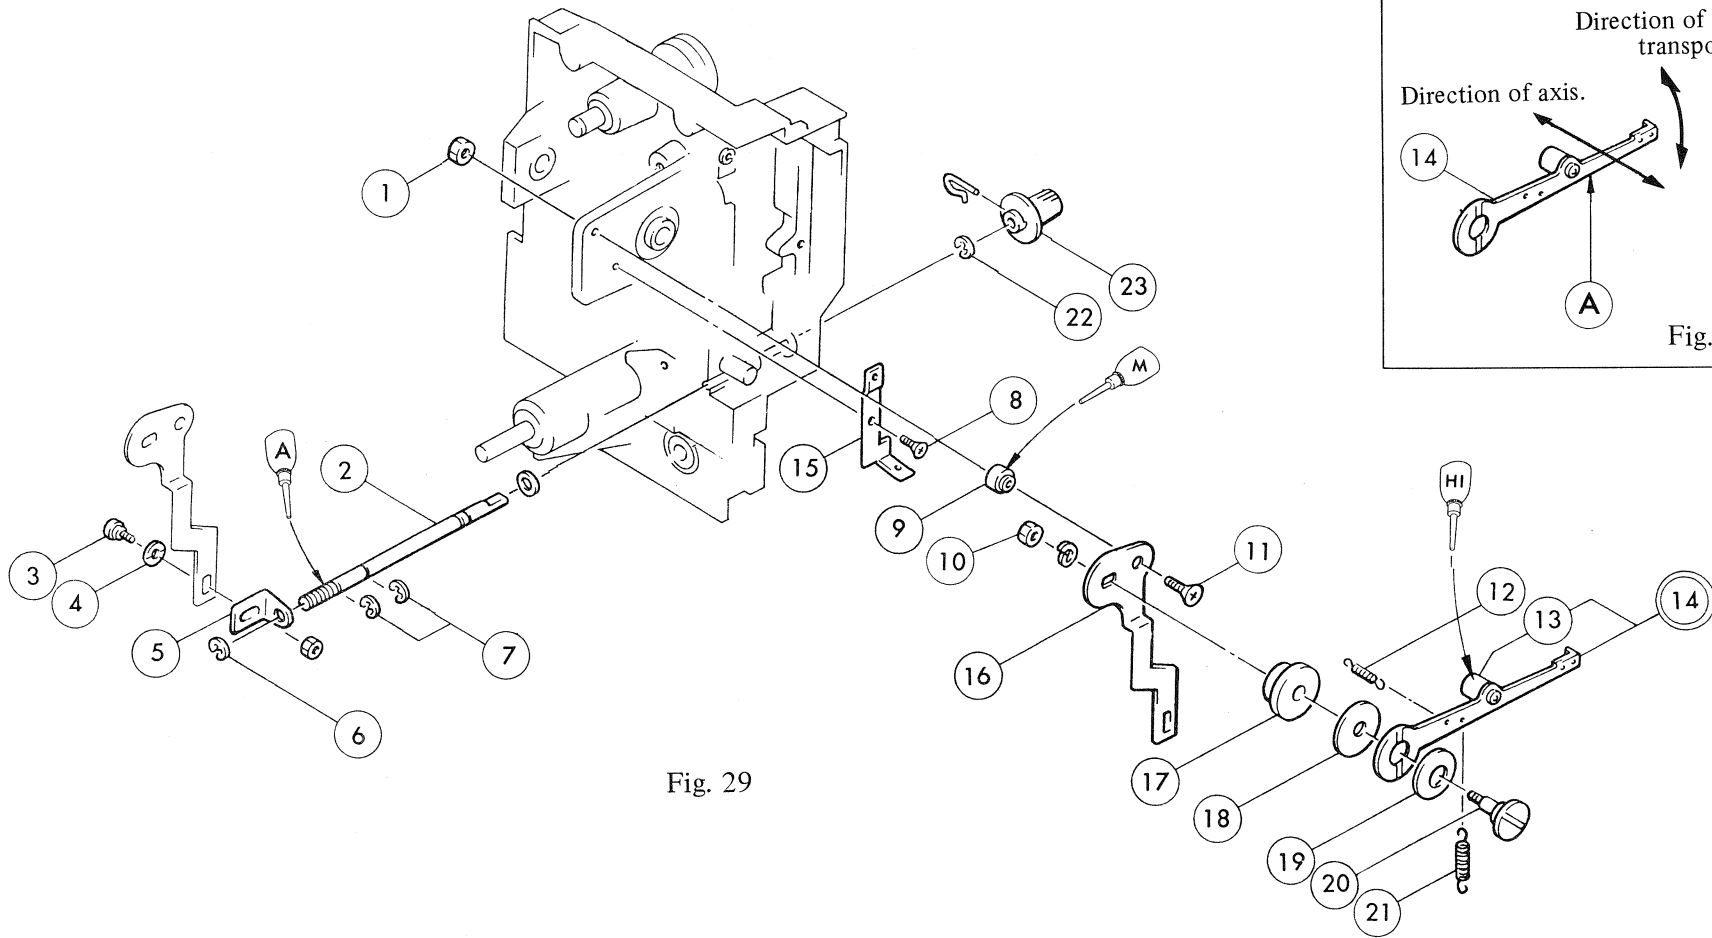
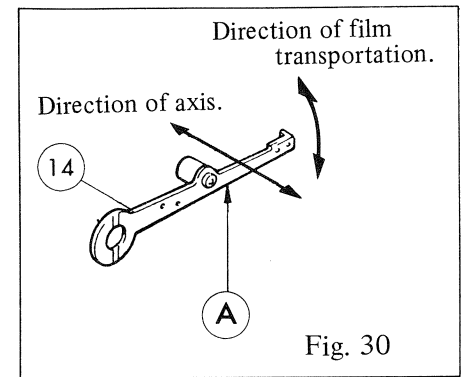

Fig. 29
Fig. 30
### III – 2 – 15 Claw Assy and Lever ⑤ Framing (See Figs. 29 and 30)
1. Unscrew ⑩ to remove ⑳.
2. Disengage ㉑ and ㉒ to remove assy parts of ⑭.
3. Unscrew 1 piece of ⑪ and take out ㉓ and ㉔ to remove ⑯ and ② from machine frame.
4. Take out ⑥ to remove ② from ⑤.
5. See Fig. 29 for further disassembly.
1. Apply DAPHNE 44 to ⑨.
2. Screw ② into ⑤ and lock with ⑥. Fit ⑦ to the specified portion of ②, and install together with assy parts of ⑯ to machine frame. Apply ALVANIA GREASE 2 to the threads of ②.
3. After installing ⑭, apply HITASOL MO-109N to the sliding surface of cam. (See Fig. 29- ⑬ )
4. Carry out adjustment, so that the claw of ⑭ extends out 1 ~ 1.2 mm from the A.P. surface.
5. Measure the tension of ⑲ in the following manner. Measure the tension at (A) in Fig. 30 by using a 110-g bar spring scale (C043), with the springs ⑫ and ㉑ not engaged. Aimed value: 65 g, Permissible range: 60 ~ 70 g
6. Measure the tension of ⑫ in the following manner. Engage the springs ⑫ and ㉑, and measure the tension by pulling the (A) section in Fig. 30 in the direction of axis by means of a 1-kg spring scale (P048). Aimed value: 400 g, Permissible range: 350 ~ 450 g
7. Measure the tension of ㉑ in the same manner as in 6. by pulling the (A) section in Fig. 30 in the direction of film transportation. Aimed value: 900 g, Permissible range: 850 ~ 950 g